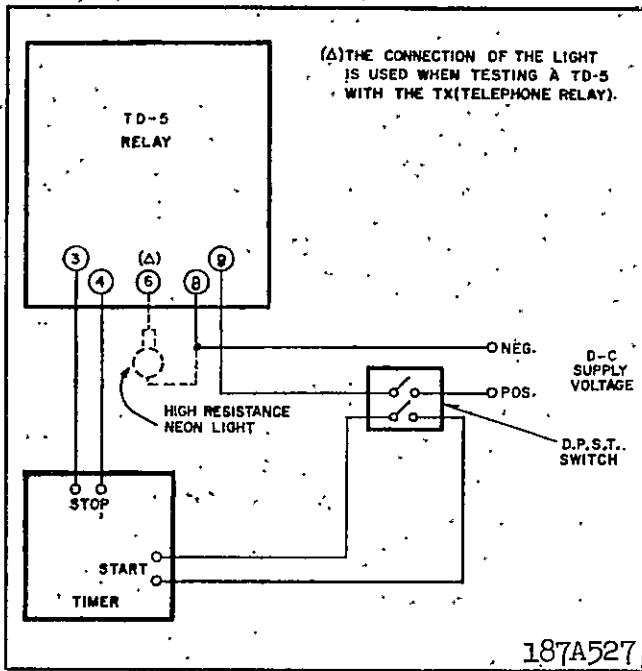

Fig. 4 Test Circuits for Type TD-5 Relay.
circuit shown in Figure 4, taken at 25°C. and rated voltage, will be within four milliseconds of its setting for settings of 0.2 seconds or less. For settings above 0.2 seconds, this accuracy will be $\pm 2\%$.
A timing check at minimum and maximum settings is recommended to insure that the relay is in proper working order. A recommended test circuit is shown in Figure 4. When testing the TD-5 with a TX telephone relay make the dotted connection as shown in Figure 4. The neon lamp will light if the TX relay is operating properly.
2. Check the reference voltage circuit. This is done by measuring the d-c voltage across the silicon power regulator, Z. Connect the d-c voltmeter positive terminal to the rear terminal of R_g and the negative terminal to relay terminal 8. Apply rated voltage per the test circuit diagram, Figure 4. The Zener voltage should be between 11.0 and 13.0 volts for 24/32 volt relays, between 21.5 and 24.5 volts for 48/125 volt relays, and between 50 and 58 volts for 250 volt relays.